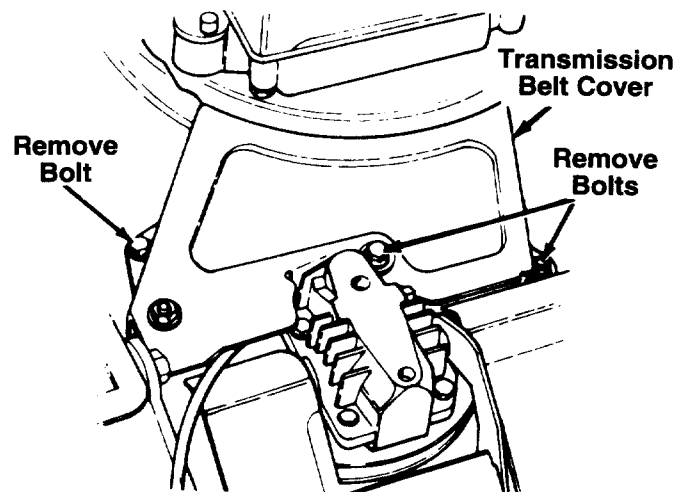

FIGURE 18.
4. Remove the transmission belt cover by removing three bolts. See figure 18.